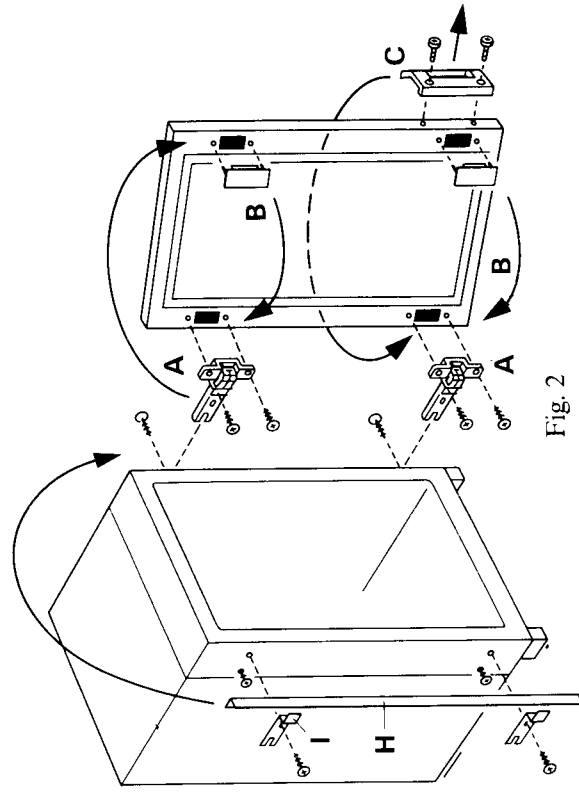

Fig. 2
## Reversing the Main Door and Frozen Food Compartment Door (see Figs 2, 3 & 4)
- 2) Cut the side trim (H) (see Fig. 2) to the internal height of the recess.